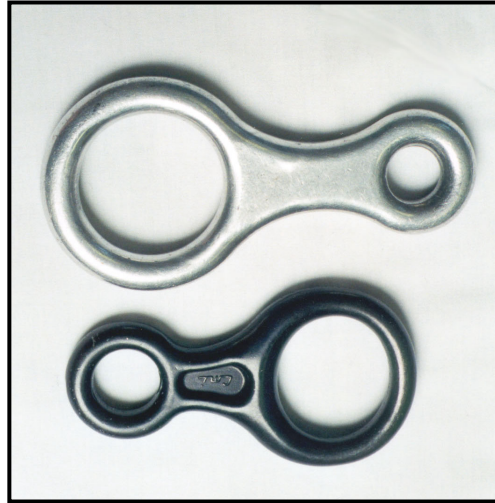

Figure 3-21. Figure-eights.
j. **Descenders.** One piece of equipment used for generations as a descender is the carabiner. A figure-eight is another useful piece of equipment and can be used in conjunction with the carabiner for descending (Figure 3-21).